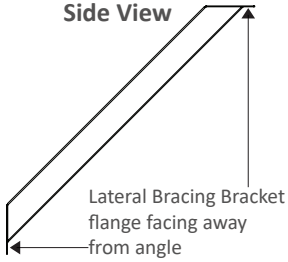

Fig. 40
5. Using two Evolution Self-Drilling Screws, fasten the Lateral Bracing Brackets onto the cut 2" x 2" [51mm x 51mm] Lateral Bracing Support. Position the screws centered 1" [25mm] from the edge of the Lateral Bracing Bracket. As shown in Fig. 40 & 41.